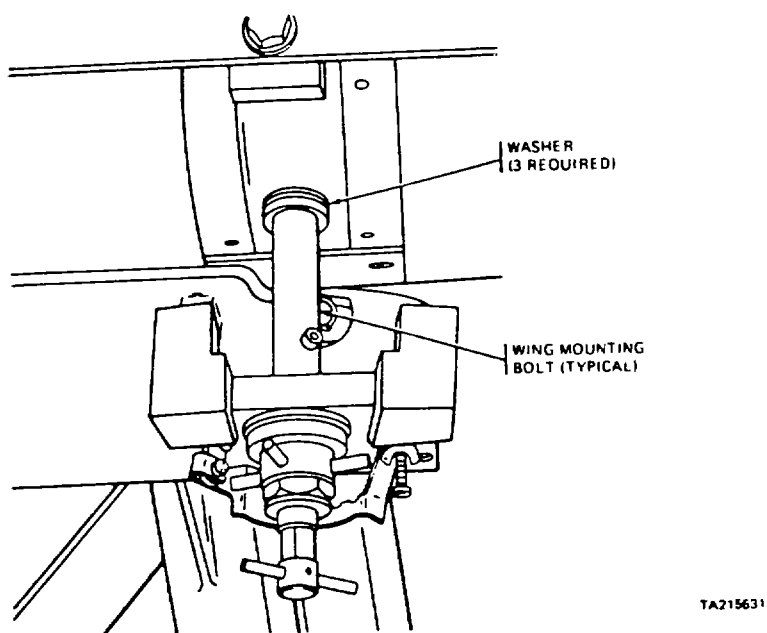

Figure 6-23. Wing Mounting Bolt Installation
(1) Install two of the wing mounting bolts with threaded heads into the bottom two wing mounting holes of each missile using three washers (wing bolts) on each side. The bolts shall be inserted through the washers and fully threaded into the missiles. The anchoring assemblies shall be fully engaged with both bolts of all three missiles (figure 6-23).